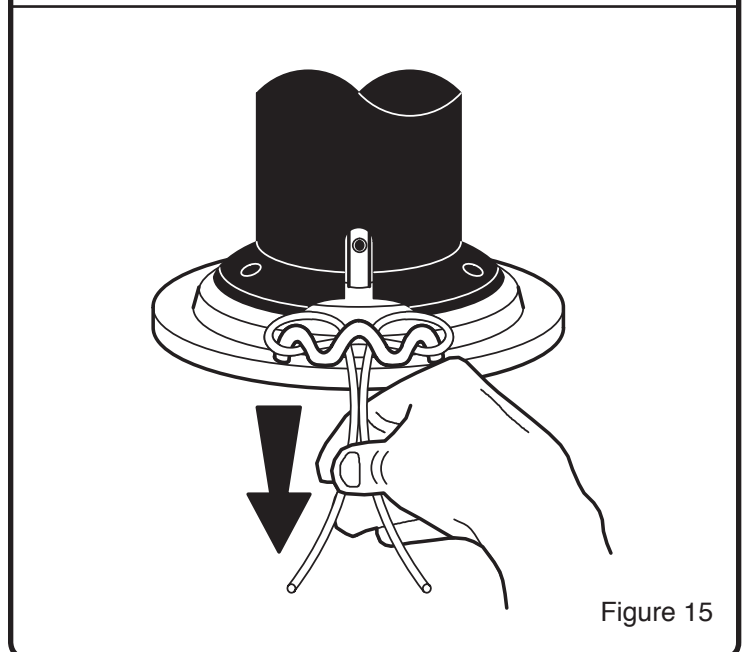

Figure 15
6. Then, check to make sure that the ends of the line are even. (See Figure 15)